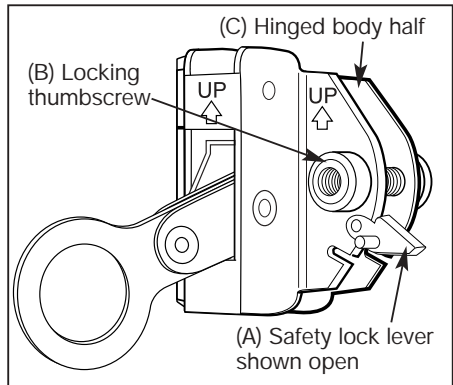

FIGURE 1
- 2.4 To open the rope grab, pull back the safety lock lever (A) to the opened position. (Figure 1)